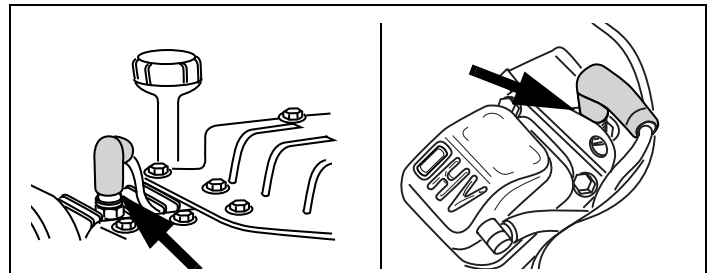

Figure 54. Typical Spark Plug Connection
10. Connect spark plug wire to spark plug before attempting to start engine. See Figure 54.